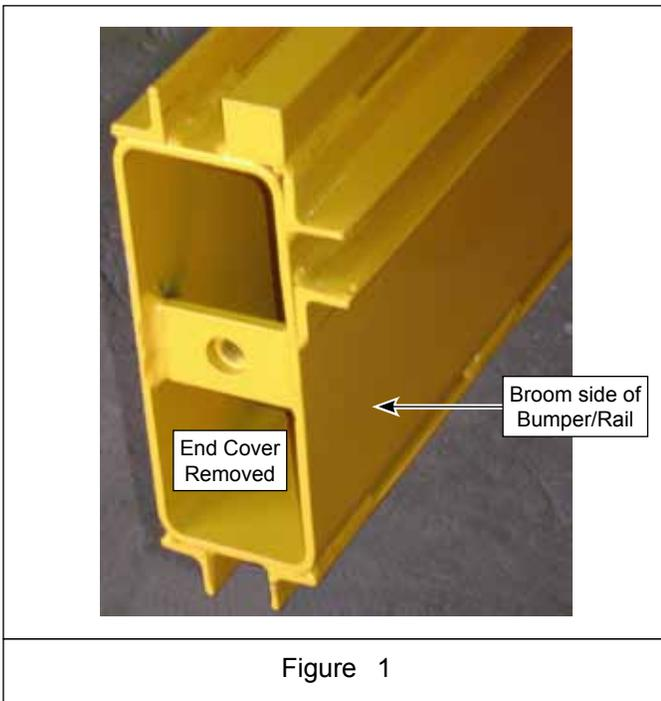

Figure 1
2. Mount bumper/rail to front of prime mover (truck) frame with (8) 1/2-13 x 1-3/4" hex head capscrews, (16) 1/2" flat washers and (8) 1/2"-13 lock nuts.
4. Remove end plate from one end of bumper/rail. See Figure 1.